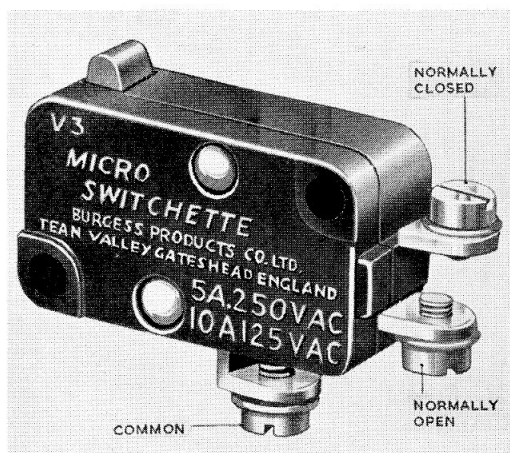

Fig. 1. Micro switchette, Type V3
2. A typical switchette, Type V3, is shown in fig. 1. It has a rapid snap action and the